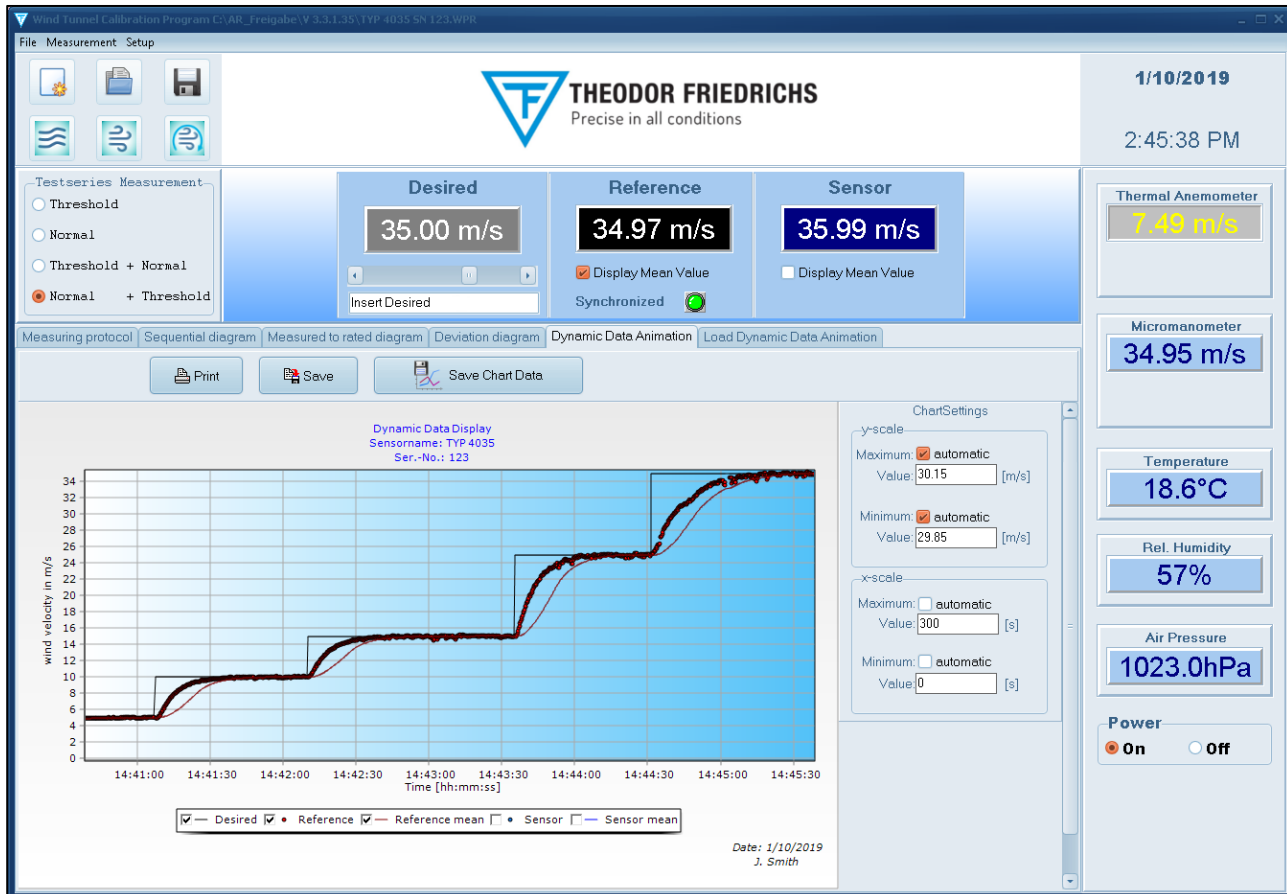

Figure 21: Main window with animation of the Dynamic data
E.g.: in figure 21 only the check marked graphs of “Desired”, “Reference” and “Reference mean” are shown.